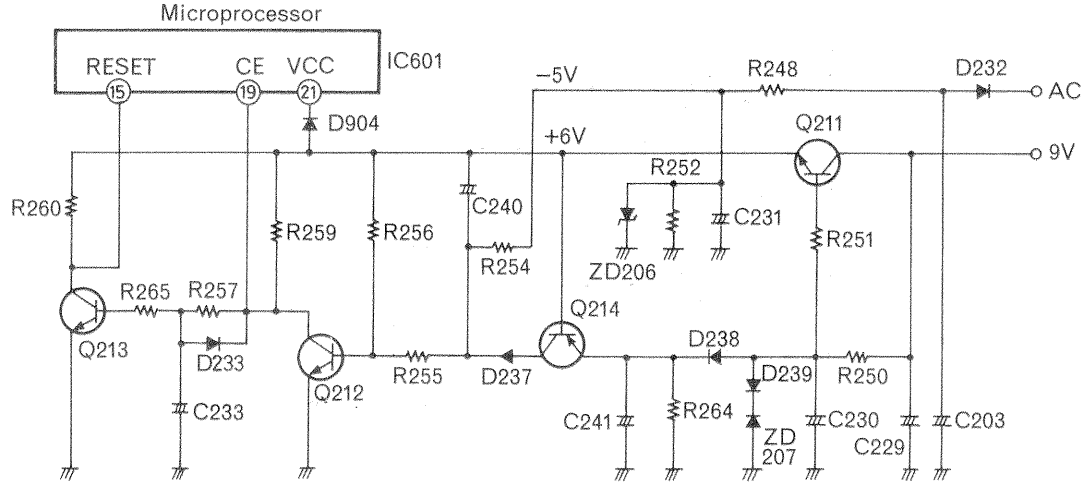

Fig. 1
Terminal ⑱ (CE) of IC601 shown in Fig. 1 is the back-up input terminal; when this terminal is set to Lo level, the unit enters the back-up mode. Terminal ⑮ (RESET) is the reset input terminal; when the power is turned on, the back-up mode is released, this terminal changes to Lo from Hi and the START program instruction is given.